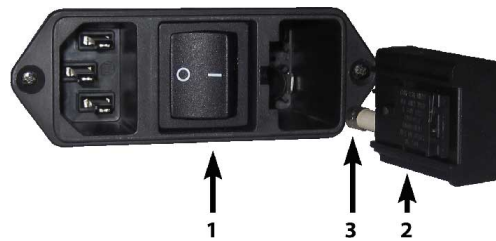

FIG 5-4
There are 4 areas on the Y-guide rail on which the tools carriage slides from left to right. Two areas (1) are visible on the front side of the guide rail. The other 2 surfaces (2) are on the back of the guide rail, directly behind the areas that are visible at the front. Figure 5-4 below shows the areas. Even though the shape of the Y-guide rail may differ from model to model, the areas are located in the same place at the top and bottom of the guiding.